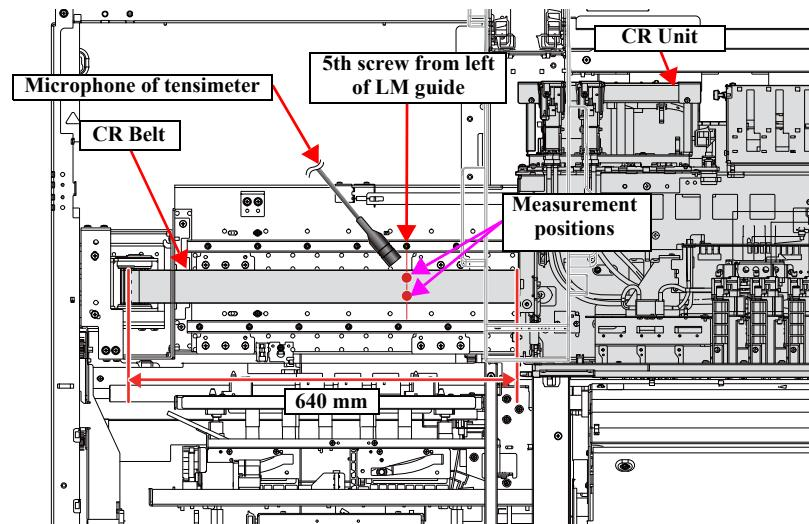

Figure 4-49.
4. Move the CR Unit to the position indicated in the Figure 4-49.
6. Bring the measurement microphone of the tensimeter near the position indicated in Figure 4-49.